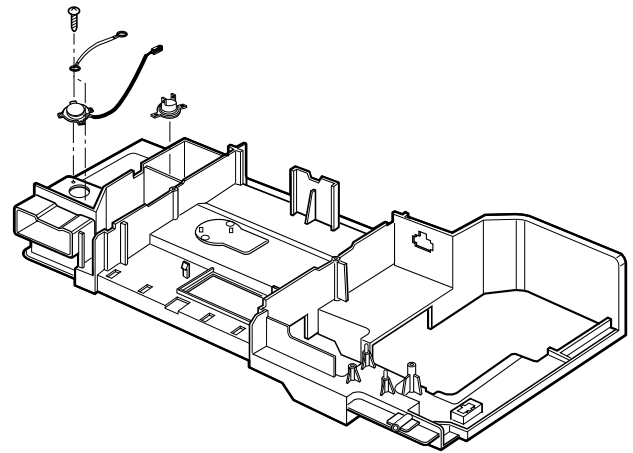

Figure 18
- (1) Remove the sensor by removing two screws securing it to the air duct. (See Figure 18)
- (2) Mount the new humidity sensor to the air duct.